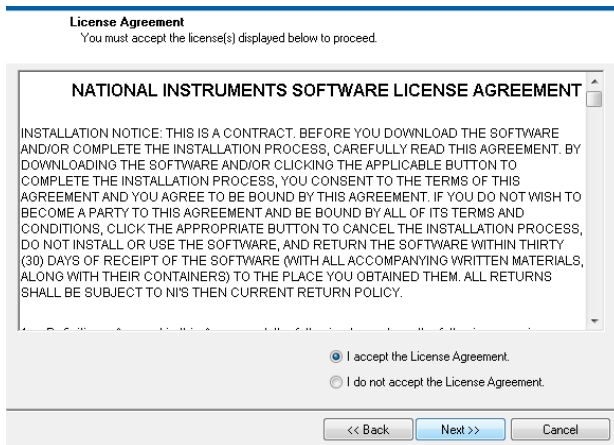

Figure 7. Accepting the License Agreement
6. A license agreement appears. Read the agreement, and then select **I accept the License Agreement** and click **Next** (see Figure 7).